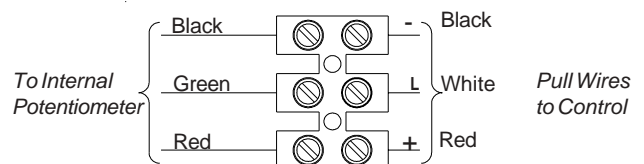

Figure 2
- 4) Attach 3-conductor wire from control to potentiometer terminal block in PTPL. **See Figure 2.**